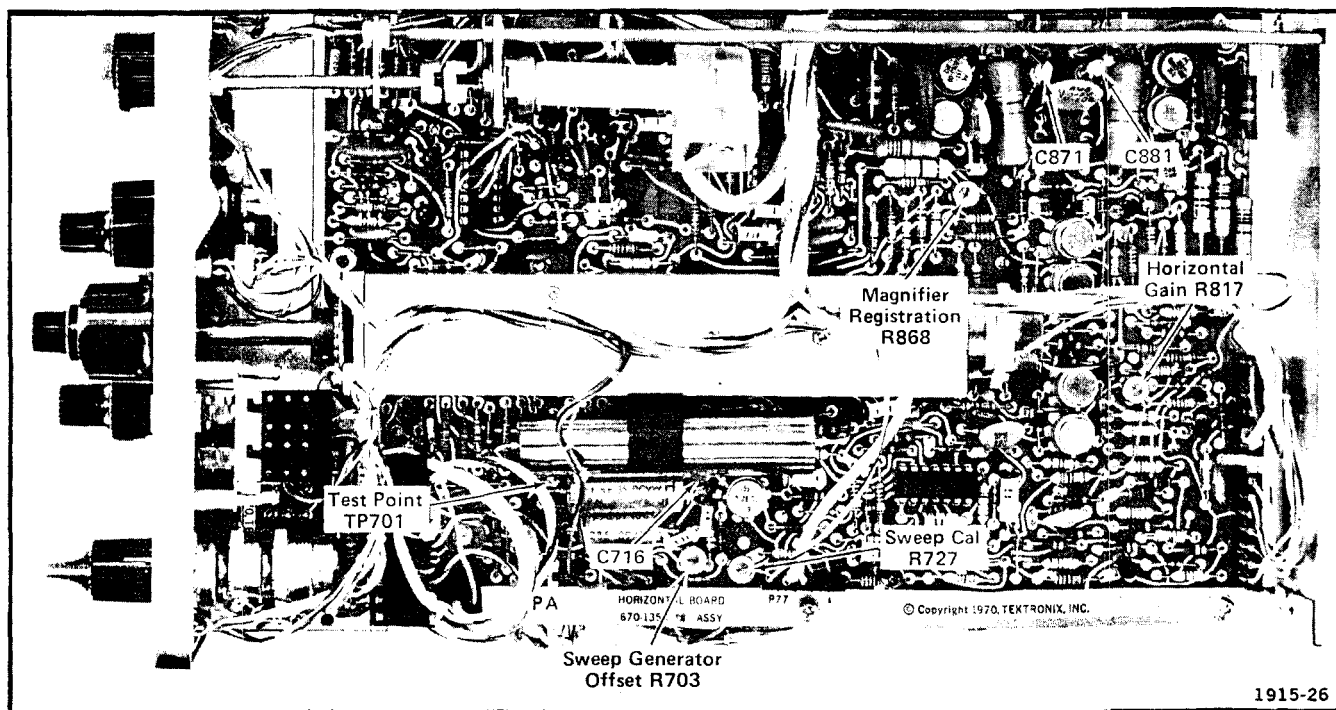

Fig. 5-9. Location of horizontal system adjustments and test points.
- Connect the tip of the 1X probe to TP701 (see Fig. 5-9).
- ADJUST—Sweep Generator Offset adjustment R703 (see Fig. 5-9) to center the test oscilloscope display around the 0 V DC reference level.
- f. ADJUST—Sweep Cal adjustment R727 (see Fig. 5-9) for a sweep duration of 11 milliseconds.
- c. ADJUST—Horizontal Gain adjustment R817 (see Fig. 5-9) for one 1-millisecond time mark per division.
- f. ADJUST—Magnifier Registration adjustment R868 (see Fig. 5-9) to align the middle time mark with the center vertical graticule line.
- d. ADJUST—C716 (see Fig. 5-9) for two time marks per division.
h. ADJUST—C871 and C881 (see Fig. 5-9) for best timing and linearity, excluding the first and last 2 divisions of the magnified sweep.
k. ADJUST—C871 and C881 (see Fig. 5-9) as necessary for the best compromise of timing and linearity between 1 μ s with 50X magnification (as in step 6 part i) and .2 μ s with 10X magnification (as in part 6 part e).